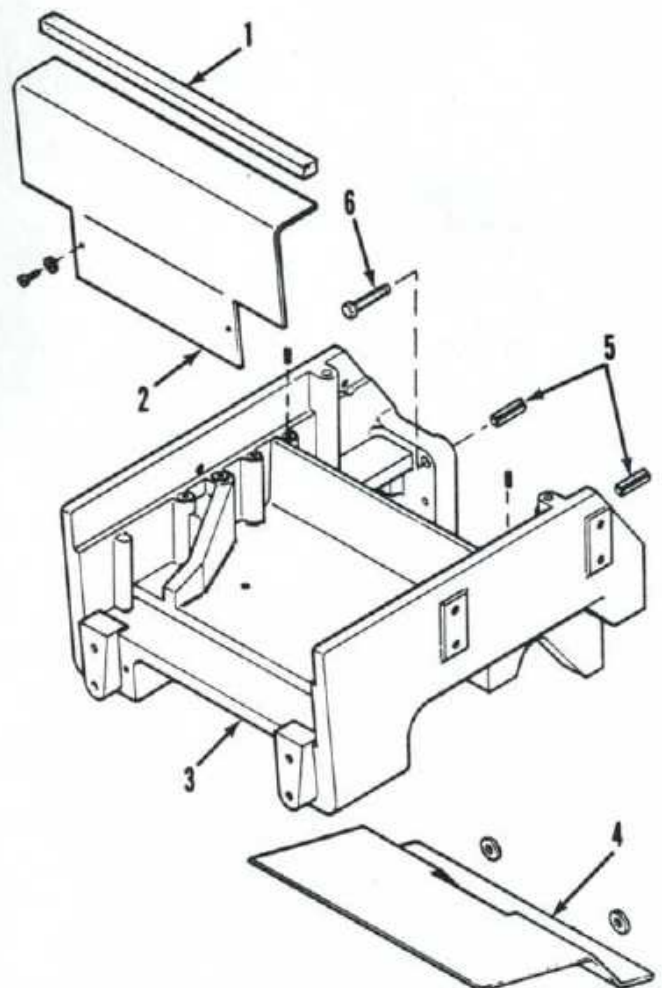

Fig. 8—View of cast front support used on some two-wheel drive models.
7. REMOVE AND REINSTALL. To remove the front support (3—Fig. 8 or 9), first block rear wheels securely and apply park brake. Remove hood, grille and side panels. Drain cooling system. Remove radi-